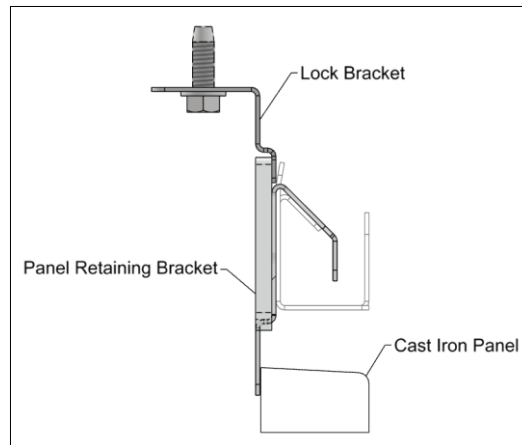

Figure 7-4: Lock Bracket for Cast Iron Panel
- j) Reinstall the Cast Iron Panels (X2) and the Lock Brackets (X2). Refer to Figure 7-4 to properly install the Lock Brackets.
- Reinstall the Lock Bracket to secure the Cast Iron Panel. Refer to Figure 7-4.